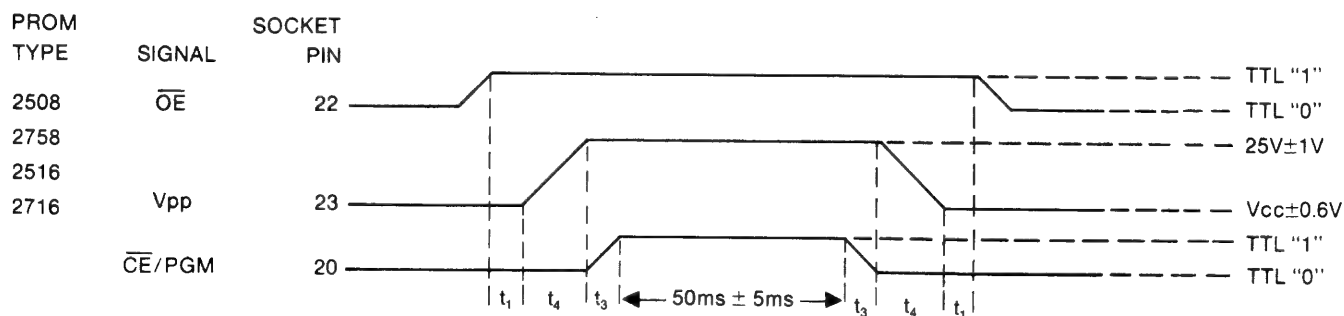

Figure 7-3. Programming Waveforms for Dynamic Test
Key 7. Press key 7 and ENTER. The M980 will display "F7 AAA," and the BUSY indicator on the PM9080 will be illuminated. This test puts the PM9080 into a continuous programming cycle. Check the appropriate pins for the programming waveforms below. The device selected by the hex switches will determine which of the waveforms in Figures 7-3 thru 7-6 will be generated.
TIMING NOTES FOR FIGURES 7-3 to 7-8